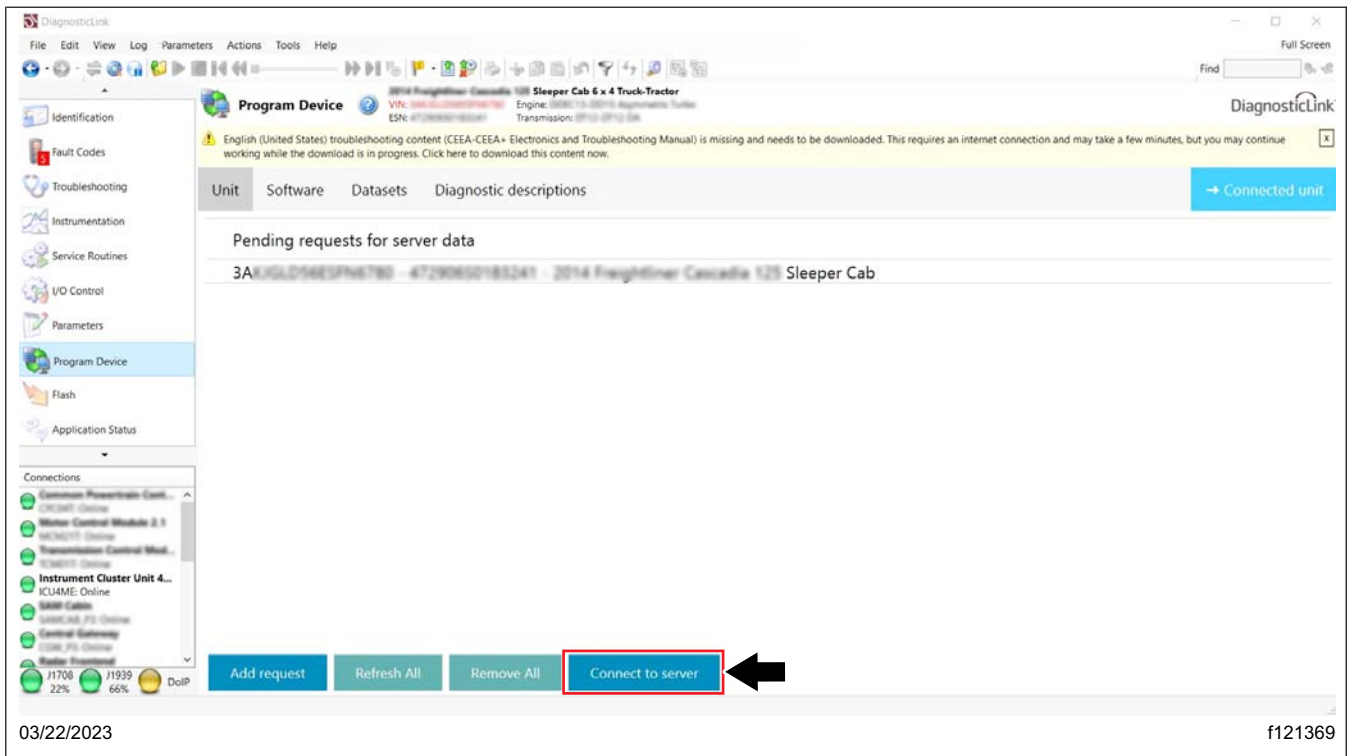

Fig. 11, Connecting to Server
8.5 Select 'Connect to server.' See Fig. 11.